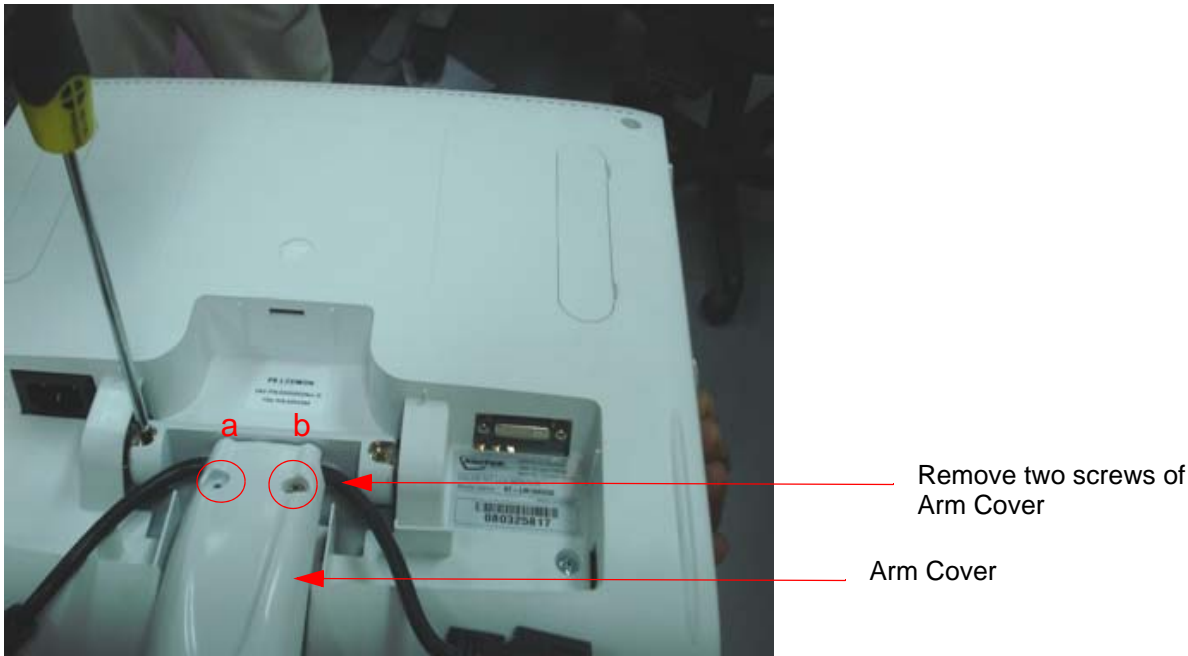

Figure 8-7 LCD Arm cover & monitor neck cover
- 2) Remove LCD Arm cover Assembly.as shown below Figure 8-7 on page 8-8